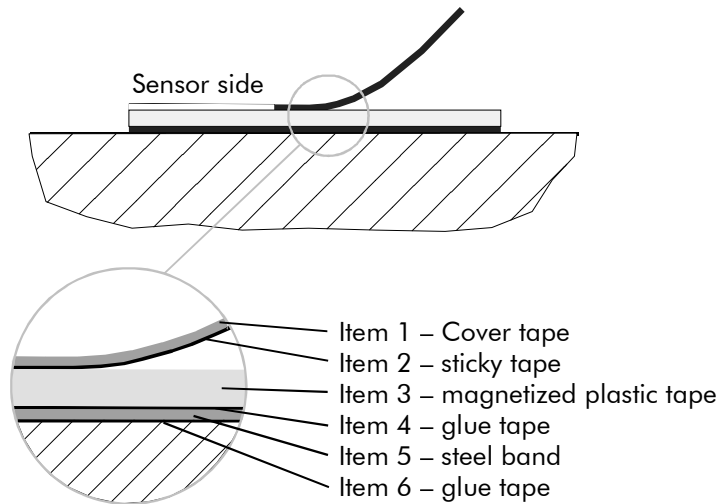

Fig. 1: Components of magnetic tape
The tape consists of 3 components (see Figure 1), a magnetized, flexible plastic tape (Item 3), which is connected with a steel band (Item 5) and a cover tape (item 1), which is for protection of the plastic tape. The cover tape is needed for the mechanical protection of the magnetic tape. In addition, it protects the magnetic tape from extreme external magnetic influences. For the complete bonding between the different materials a special sticky tape is used (item 2, item 4, and item 6).